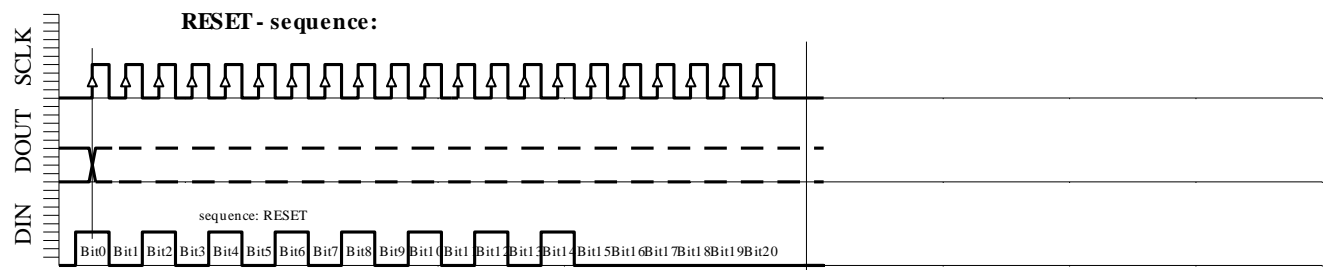

Fig. 6e: RESET sequence (21 bit)
- RESET sequence (Figure 6e)
The RESET-sequence is special as its unique pattern is recognized by the module in any state. By consequence it can be used to restart if synchronization between the microcontroller and the MS5536C has been lost. This sequence is 21-Bit long. The DOUT signal might change during that sequence (see Fig. 6e). It is recommended to send the RESET sequence before first conversion sequence to avoid hanging up the protocol permanently in case of electrical interference.